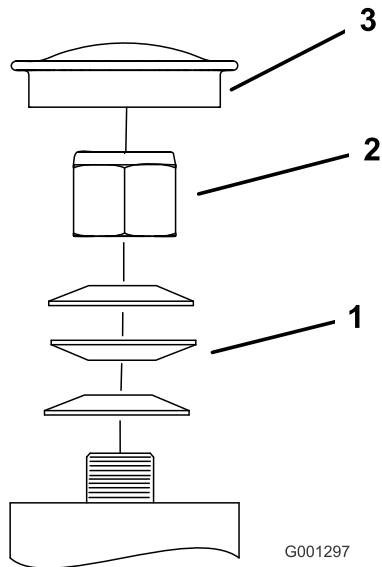

Figure 74
3. Remove the dust cap from caster and tighten the locknut (Figure 74).
4. Tighten the locknut until the spring washers are flat, and then back off a 1/4 turn to properly set the preload on the bearings (Figure 74).
Important: Make sure that the spring washers are installed correctly as shown in Figure 74.
5. Install the dust cap (Figure 74).